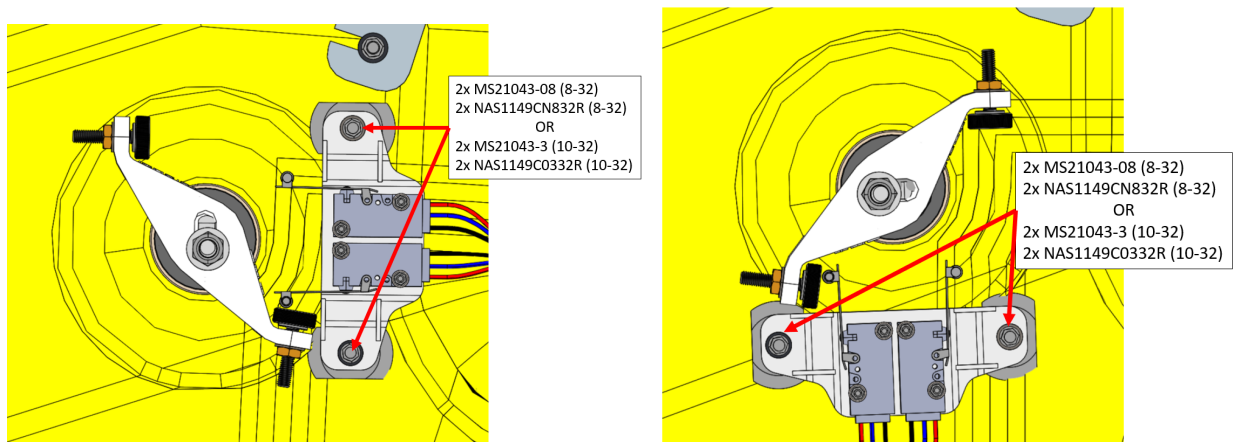

Figure 14. Installed limit switch subassembly; (1.0 config: Orient as shown on right)
15. Using isopropyl alcohol, clean surfaces where lubricant will be applied. Apply ICA012078 Tef-Gel to the threads of the studs. Install limit switch assembly onto studs with 2x NAS1149CN832R washers and 2x MS21043-08 nuts torqued to 14 in-lbs (if 8-32 studs were used), or with 2x NAS1149C0332R washers and 2x MS21043-3 nuts torqued to 20 in-lbs (if 10-32 studs were used) as shown in **Figure 14** below.